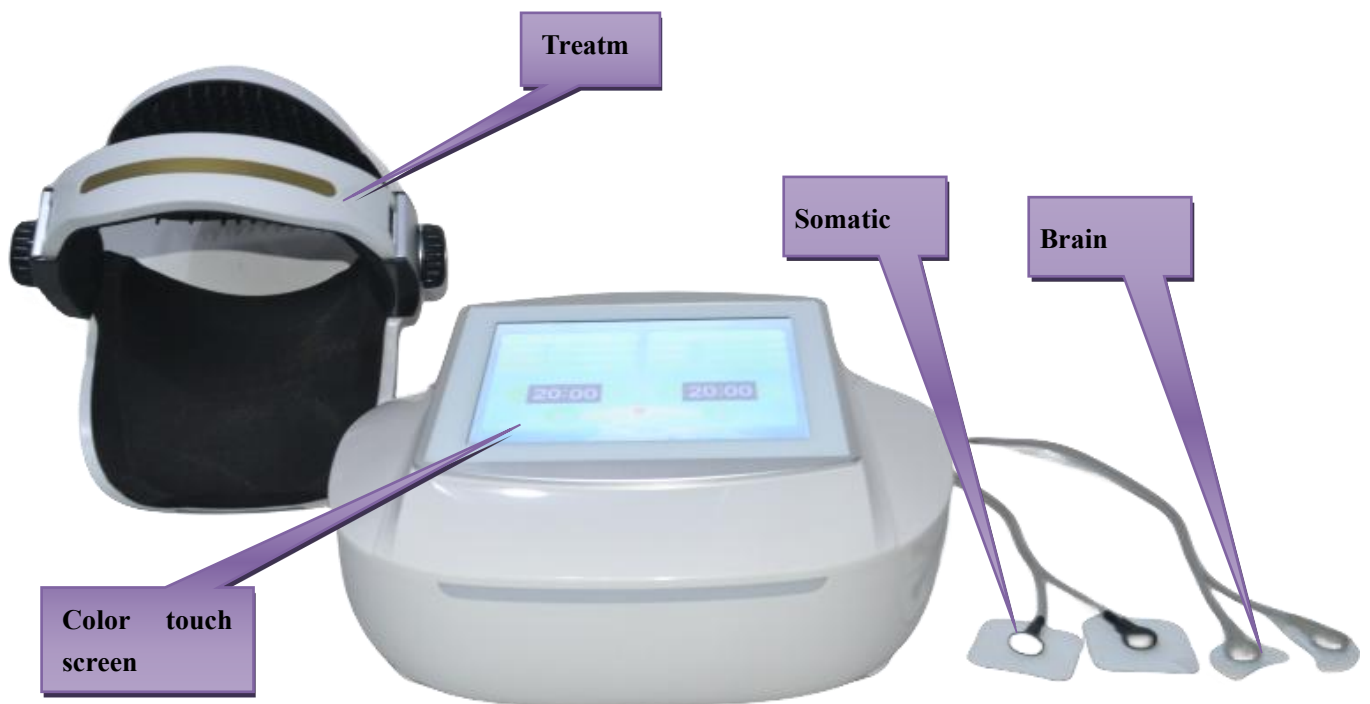

Fig. 1 Structure of WF-9903 Transcranial Magnetolectric Therapy Instrument
The transcranial magnetolectric therapeutic instrument consists of a main machine, a power line, a therapeutic cap, an output line and an electrode. The therapeutic cap consists of six magnetotherapeutic bodies, a connecting belt, a shell and a lead wire, wherein the therapeutic cap is divided into an Oxford belt connecting type structure and a helmet type structure, each magnetotherapeutic body consists of a cylinder or a cuboid with the diameter of 40-70mm and the height of 15-25mm, the shell is made of ABS plastic, The material of the part in contact with the human body is medical non-woven fabric: polypropylene (PP) fiber. The electrode is divided into two types: limb electrode and EEG electrode. The electrode is a purchased product with medical device registration certificate. The material of the electrode in contact with the human body is sodium polyacrylate (colloid). Figure 1 below is the structure diagram of the desktop WF-9903 transcranial magnetolectric therapy instrument.